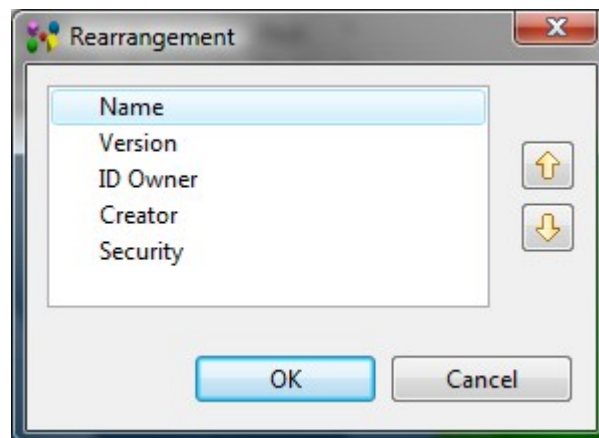

Figure 1. Rearrangement dialog window
- Select the **Columns perspective -> Rearrange** menu item in the appeared context sensitive menu. The **Rearrangement** dialog window appears on the screen (see Figure 1):